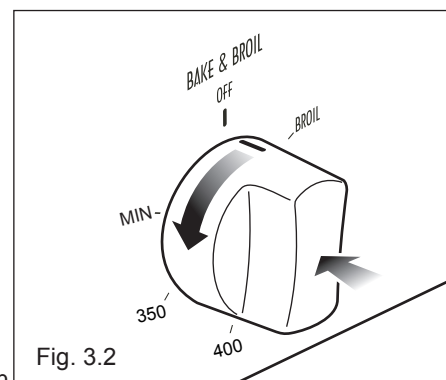

Fig. 3.2
- 2) Turn the knob to the oven burner (oven burner temperature adjustment range is MIN to MAX, the knob can be turned to any position in this range for ignition, Fig. 3.2), the oven automatically ignites, and it lights within 5.5 seconds; If it can't be lighted for the first time, ignite it again after 12 seconds, and it lights within 5.5 seconds; If it can't be lighted after repeating for 3 times, you need to reset the knob to OFF and then turn it on again.